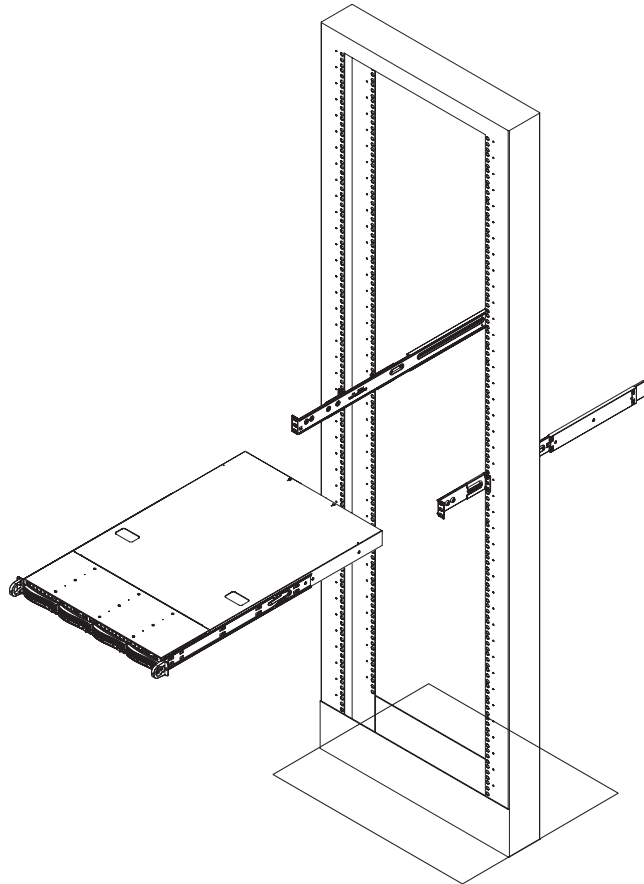

Figure 2-7 Install the Server in a Third-party Rack (1)
1. Slide the server onto the outer rack rails (refer to Figure 2-7).